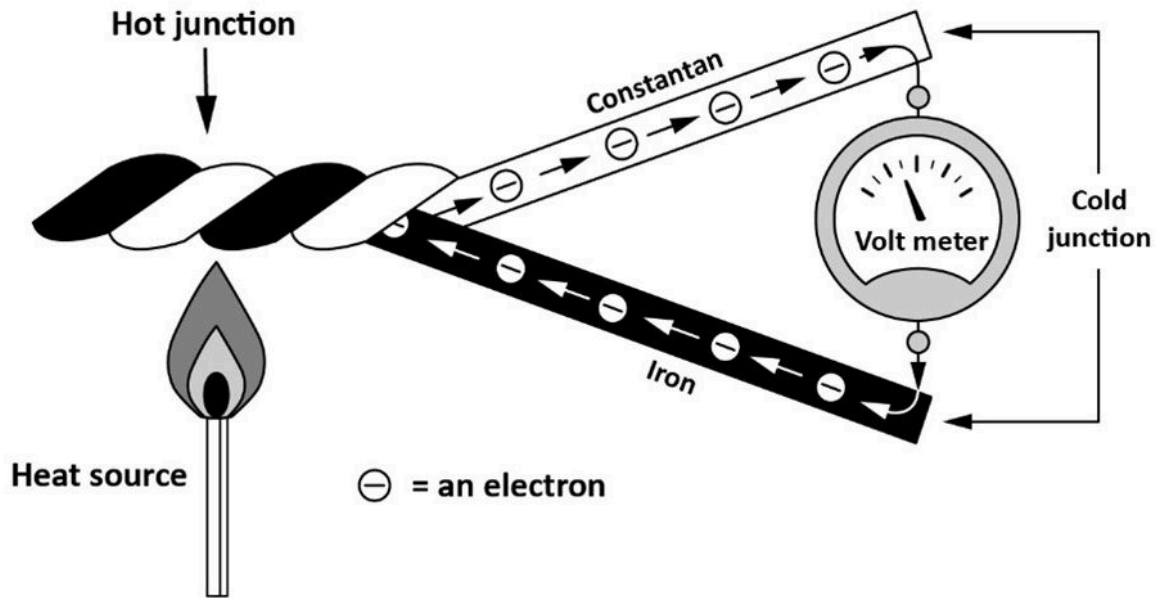

Figure 1 Thermocouple hot and cold junctions
- Figure 1 “Pilot flame” by Camosun College is licensed under a CC BY 4.0 licence.
The thermocouple is made of two dissimilar metals joined together at one end called the hot junction. The opposite end, which is not joined together, is called the cold junction (Figure 1). It is important that only $\frac{3}{8}$ to $\frac{1}{2}$ in (10 mm to 13 mm) of the hot junction is heated by the pilot flame, as the greater the temperature difference between the hot and cold junctions, the greater the voltage generated. The thermocouple generates approximately 25 to 30 millivolts (mV), which is enough to power the electromagnet in a safety shut-off valve or safety switch.